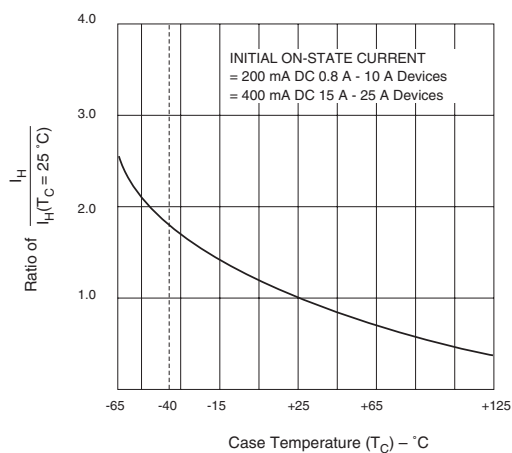

Figure E2.14 Normalized DC Holding Current versus Case Temperature
- (8) See Figure E2.14 for  $I_H$  versus  $T_C$ .